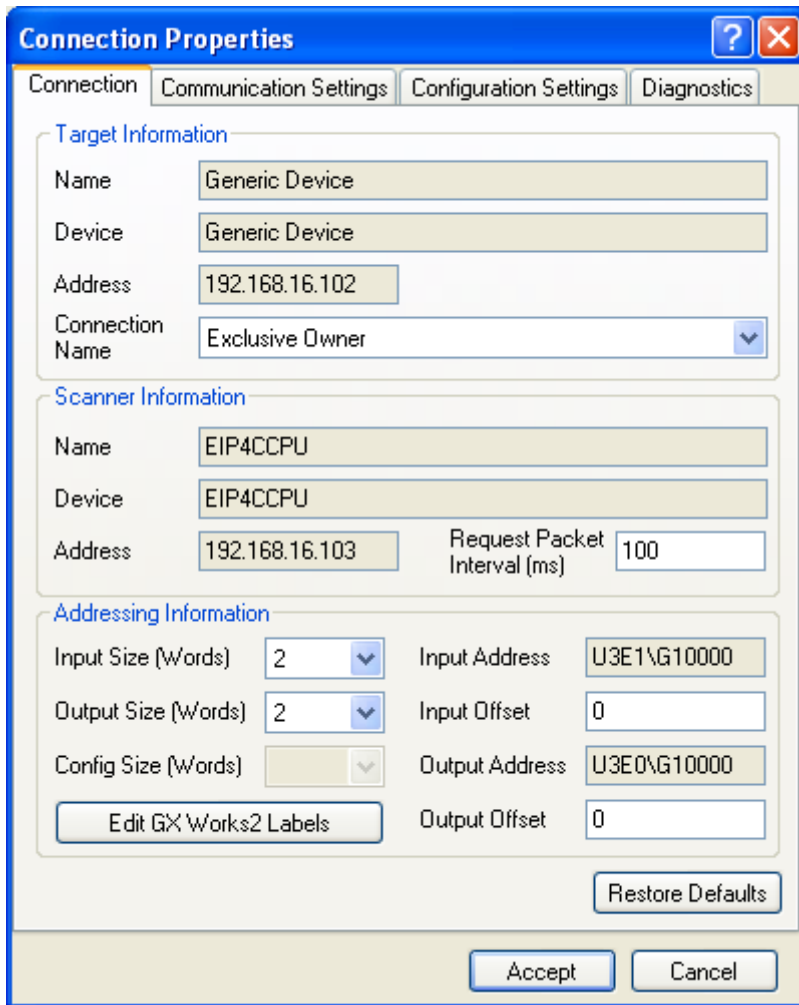

Figure 46: Generic Device Connection Properties
- Configure the Connection Properties (refer to section 10.12 and see Figure 46). Enter a RPI. Select the appropriate input and output sizes.
4. Configuration of the Connection Properties is identical to the Generic Device (refer to section 10.12 and see Figure 46). Enter a RPI. Select the appropriate input and output sizes.